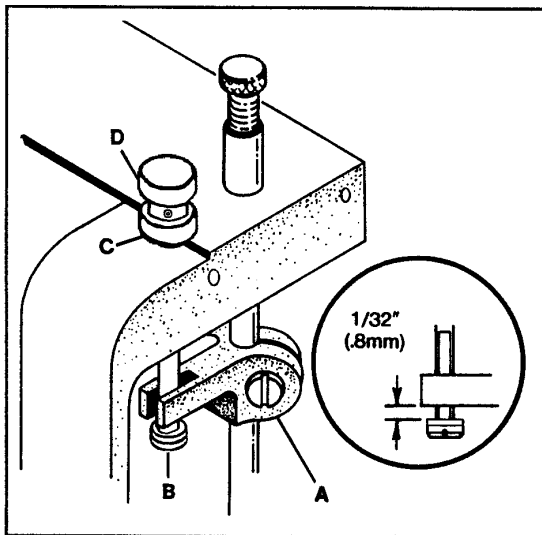

FIG. 37
When sewing on extremely lightweight material and/or feed cutting is a problem, the presser foot may be "hung" by raising stud (B) until guide (A) rests on the shoulder of stud (B). This adjustment will raise the presser foot slightly, so only the pressure of the presser foot shoes contact the material. Turn handwheel in operating direction until the feed dogs are below the throat plate surface. At this time there should be a 1/32" (0.8mm) clearance between the bottom of presser bar guide (A, Fig. 37) and presser bar guide stud (B). To hang the presser foot loosen lock nut (C Fig. 37) and turn thumb screw (D Fig. 37) so that foot comes up slightly, tighten screw (C Fig. 37).